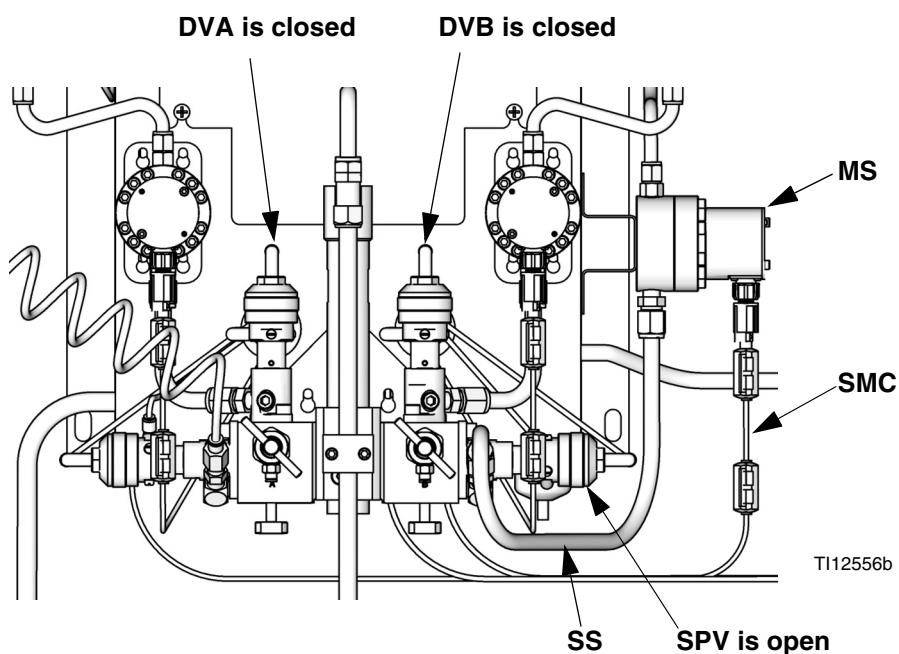

FIG. 108. Solvent Push Setup
1. See FIG. 108. Install the solvent meter (MS) on the side of the fluid station, as explained in the ProMix 2KS Installation Manual.